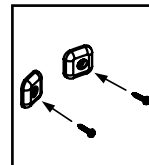

FIGURE 11
14. Take two handle supports and two 1" screws. Place screws through the hole provided in center of each support. **FIGURE 11.**